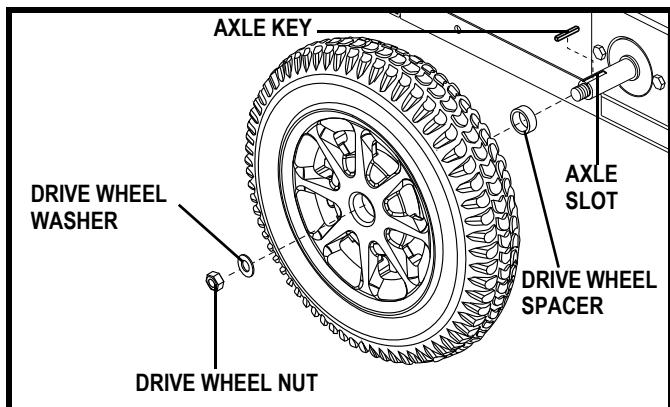

Figure 20. Quantum Jazzy 1650 Drive Wheel
4. Remove the drive wheel nut and washer from the axle. See **figure 20**.